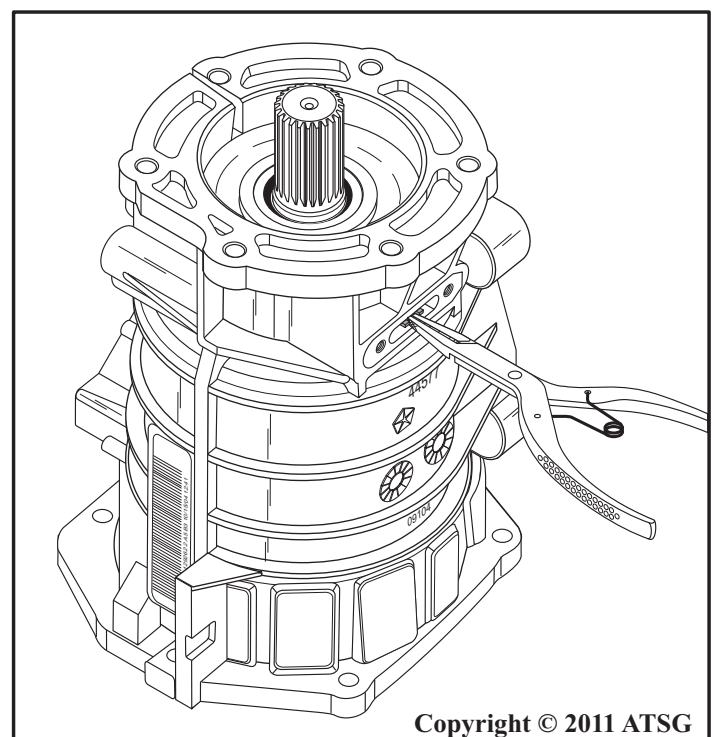

Figure 195
45. Expand the rear ball bearing snap ring with snap ring pliers, as shown in Figure 195, and slide the housing downward until the locating ring snaps into the groove in the ball bearing outer race.